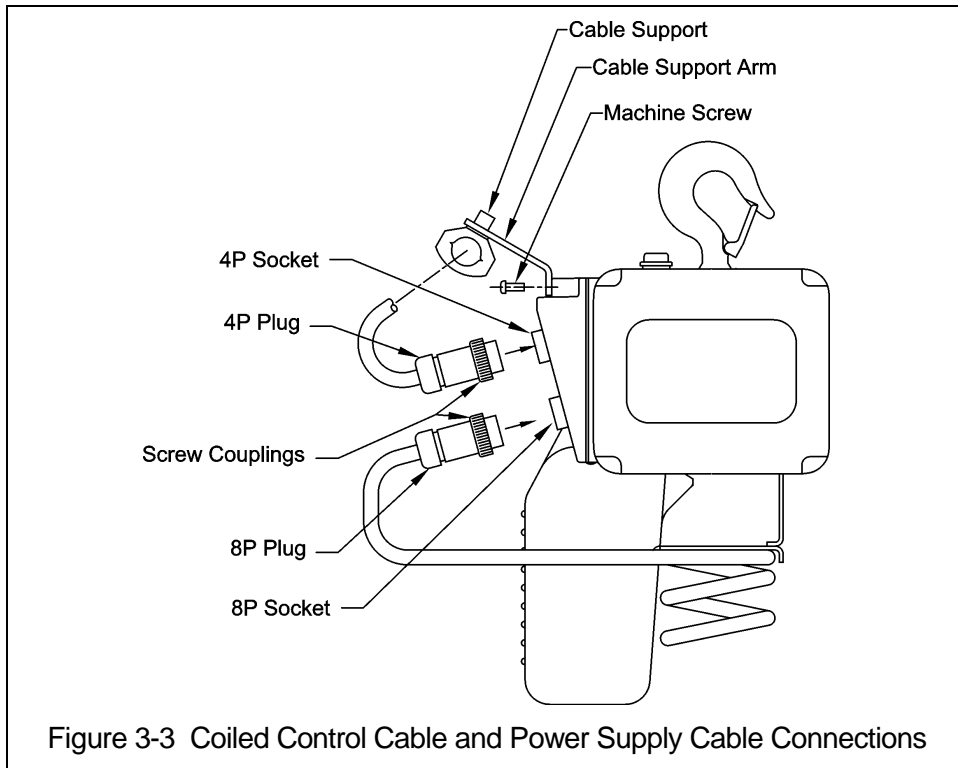

Figure 3-3 Coiled Control Cable and Power Supply Cable Connections
- Refer to Figure 3-3.
- For a manual trolley the guide wire should be positioned slightly outside the hoist's Cable Support as shown in Figure 3-3.